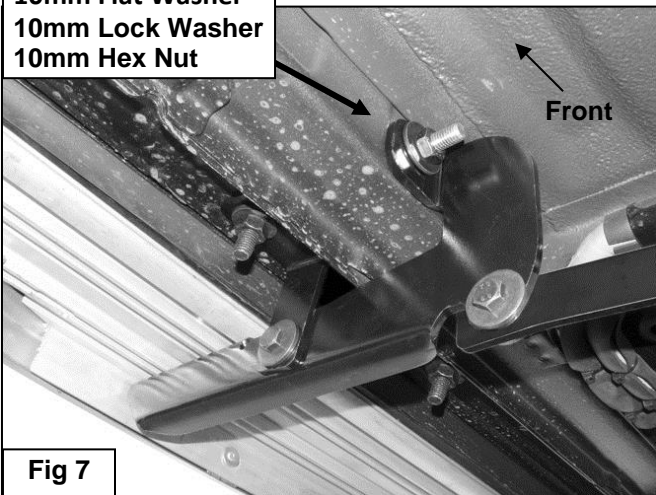

Fig 7
8. Select the passenger side Front Mounting Bracket. Attach the Bracket to the Bolt Plate in the back of the frame channel first with (1) 10mm Flat Washer, (1) 10mm Lock Washer and (1) 10mm Hex Nut, **(Figure 7)**. Attach the Mounting Bracket to the back of the "L" Support Bracket with (1) 8mm Hex Bolt, (2) 8mm Flat Washers, (1) 8mm Lock Washer and (1) 8mm Hex Nut, **(Figures 7 & 8)**. Do not tighten hardware at this time.